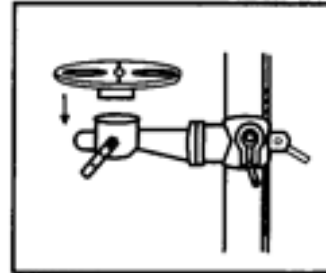

Figure 1
2. Place the table on the arm of bracket assembly (Fig. 1).